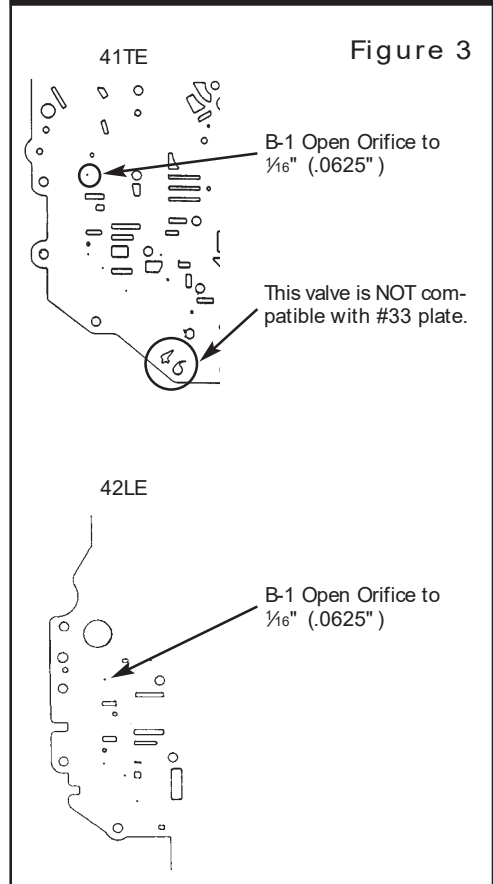

Figure 3
3. Drill out the "B-1" hole in the separator plate to 1/16" (.0625") (see Figure 3).